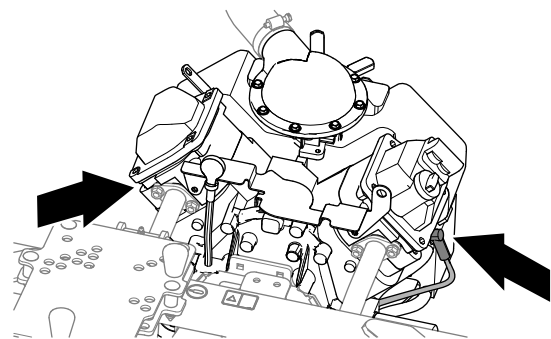

Figure 82
4. Remove the 2 spark-plug wires as shown in Figure 82.